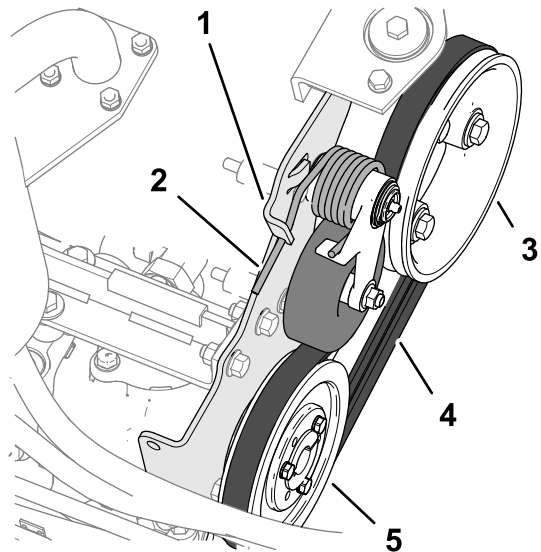

Figure 90
2. Push down the end of the belt-tension spring down and out of the notch in the tab of the pump mount, and move the spring end forward (Figure 90).